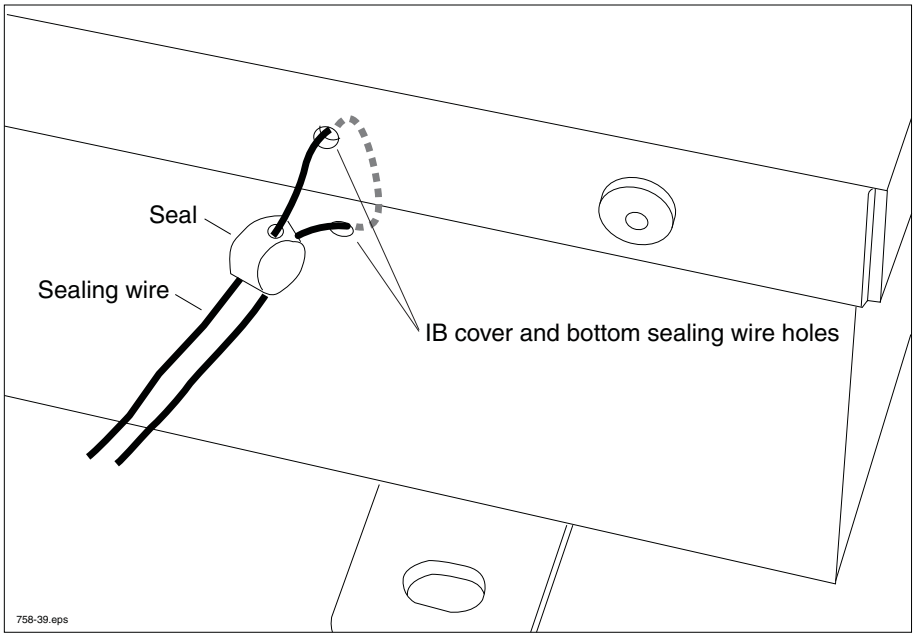

Figure 45. IB Sealing
The Interconnect Box (IB) cover is secured to the IB enclosure by 4 Torx screws and a wire with a W & M seal. The sealing holes are located in both the enclosure box and the cover (see Figure 45). Removing the cover will destroy the seal.